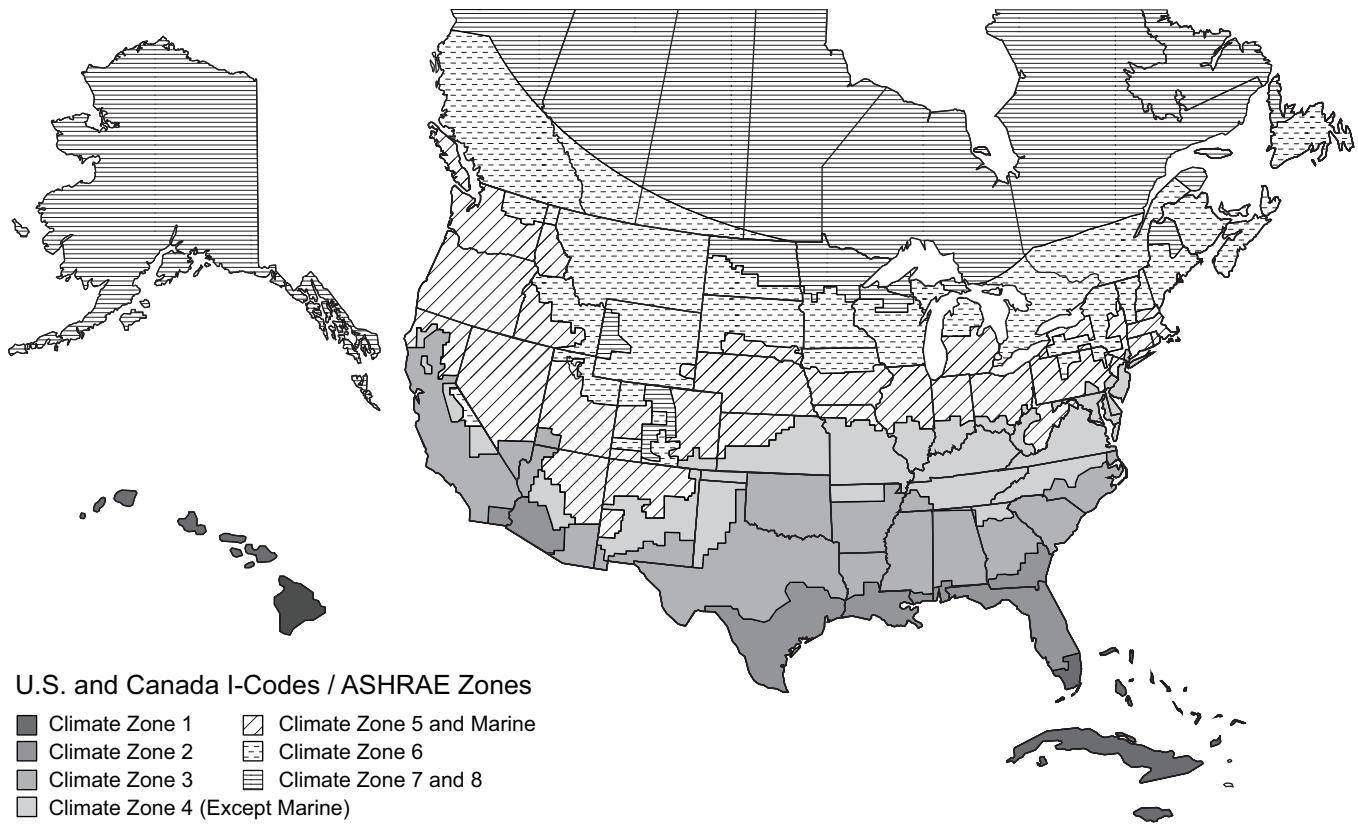

Fig. 78 — U.S. and Canada Climate Zones
- Refer to Fig. 78 for map of U.S. and Canada climate zones.